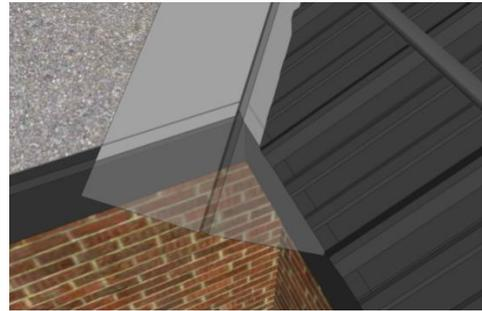

Figure 4
- At the outer edges of sections such as **F**, **H**, and **I**, where the panels are not cut at an angle, **Rake** or **Gable** trim is used. Since trim is often 50% of the cost of materials it can be a temptation to skimp on Rake Trim. You should be aware that these trims not only look nice and make the job look finished, but in areas where it is windy the Rake trims are essential to prevent the wind from getting under the panels and vibrating them loose. A roof with Rake trims is much less likely to have the panels blow off than one without them. We have three profiles that can be used for Rake trim: House Rake, Outside Corner, and Narrow Outside Corner (Fig4).
- After the roof is on you will probably need **Snow Guard**. We have Figure 3 several profiles that we make here (Fig4), as well as individual **Snowbirds**. All are effective if enough are installed, so your choice is mostly a matter of which ones are most appealing to you. One thing to keep in mind with the Mast Snow Guard is if you have trees close to your roof and your gutters tend to become clogged with debris, these will tend to do so as well. If you have a situation where you *must* use the Mast Snow Guard to keep water from overshooting your gutter, vent material can be put under them to keep debris out but still let water through.
Start at the drip edge with the valleys and work your way up. On the first valley push it down far enough that the shortest side (if there is one) overhangs the drip edge by 1 inch (See Figure 4). Push it tight into the roof, shifting it back and forth to find the center as you do. When you find the place that it fits snugly, hold it firmly in place while you use a  $\frac{3}{4}$  inch roofing tack to hold it in place. Place one tack out toward the edge of the valley, approximately an inch from the edge and about an inch from the bottom. If one piece of flashing will cover the entire length of the valley, move up to the top and push it tight into the valley and nail the top end like you did the bottom.